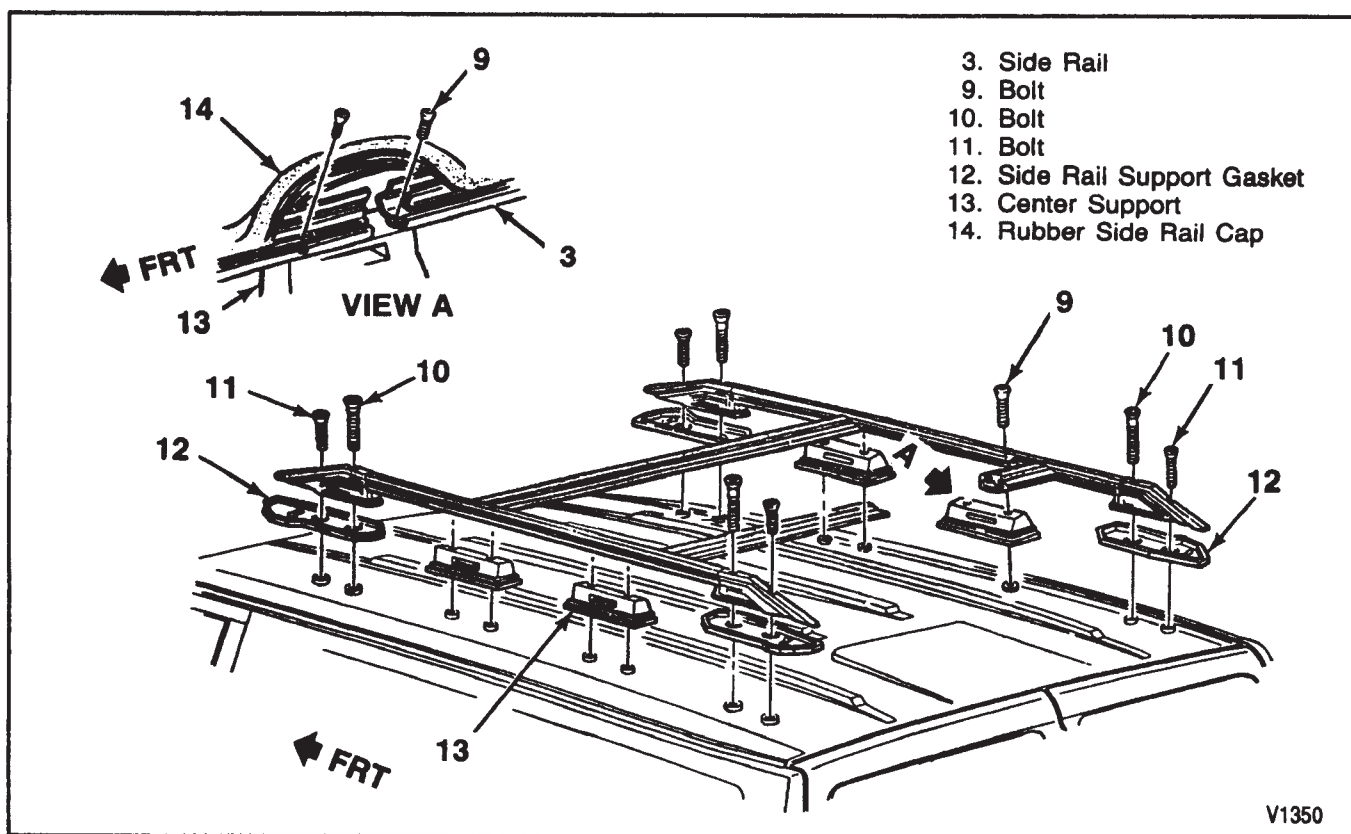

Figure 2—Luggage Carrier Components
1. Side rail support gaskets (12) to the roof (figure 2).
4. Bolts (9) into center supports (13).